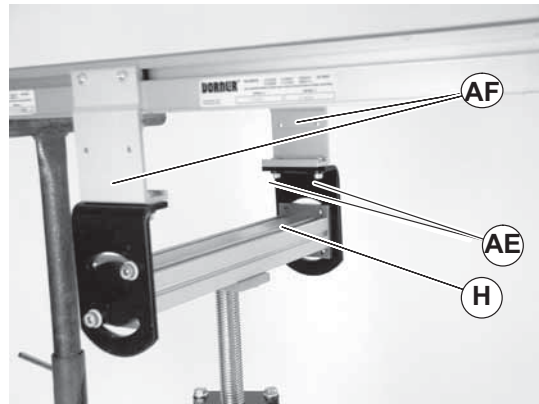

Figure 22
8. Lower conveyor supports (Figure 22, item AF) onto mounting bracket (H). Attach conveyor supports to bracket with hardware (AE).
<p>Failure to secure screws (Figure 22, item AE) may cause conveyor sections to drop down, causing severe injury.</p> <p>TIGHTEN ALL SCREWS (AE) AFTER ADJUSTMENT.</p>
9. Tighten fastening hardware (Figure 22, item AE) to 100 in-lb (11 N-m).